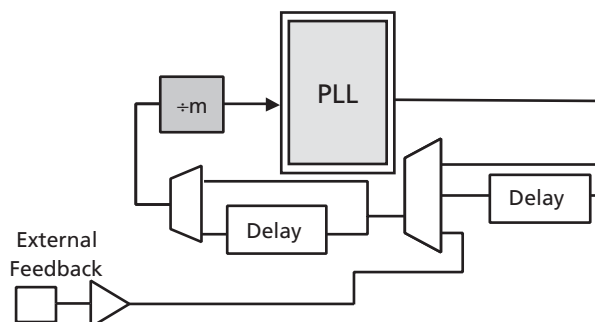

Figure 6 • Block Diagram of the Feedback Circuitry in an HDL Design
The clock conditioning circuitry enables the you to implement the feedback clock signal using an external clock or the output of the PLL itself, as illustrated in Figure 6.
- CLKA – Input clock for secondary clock. As explained in the “ProASIC^{PLUS} PLL Core Characteristics” section on page 1 and illustrated in Figure 6 on page 9, this input clock is used only in bypass mode.